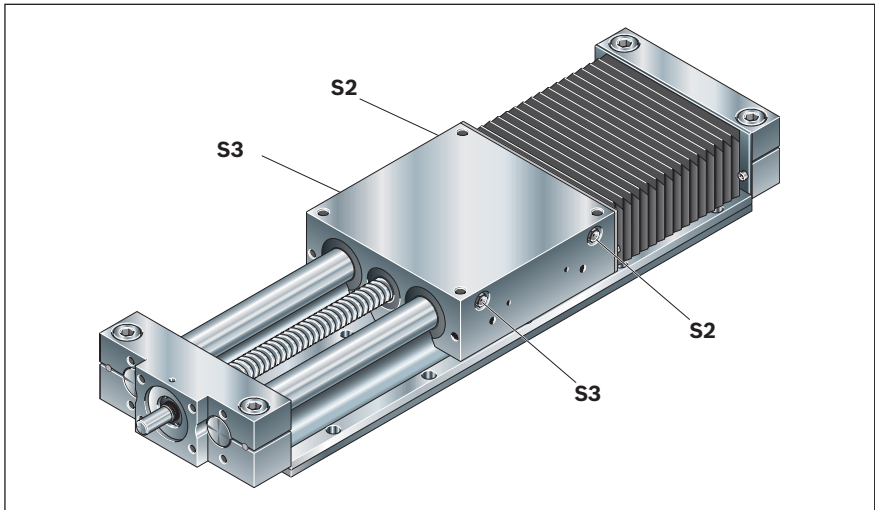

Fig. 55: Lubricating the Linear Motion Slide SOK
4. For the open type SOK, lubricate one S2 and one S3 lube nipple in each case ➡  Fig. 55 on page 41.